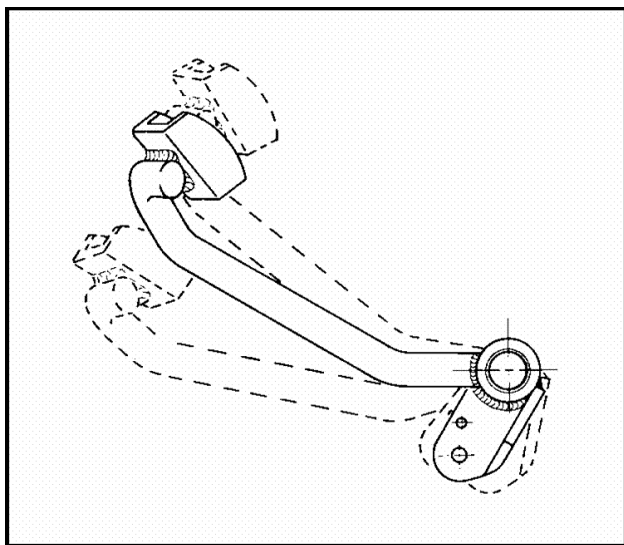

Fig.1
- The play at the point where the clutch pedal detaches must be $\frac{1}{3}$ rd of the pedal's total travel (fig. 1).